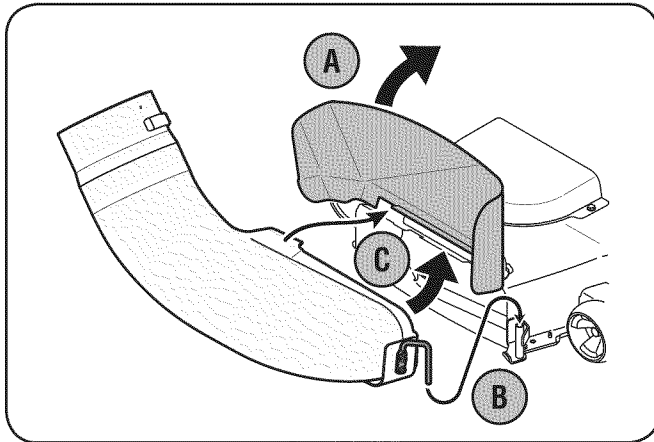

Figure 4-23
3. Raise the chute deflector (A in Fig. 4-23) on the deck and hold it while you position the discharge chute over the chute opening.
4. Insert the hinge pin of the discharge chute into the tube on the chute stop bracket. See B in Fig. 4-23.
5. Rotate the chute around the deck so that its front edge fits snugly into the deck opening. Lower the chute deflector slowly (C in Fig. 4-23).